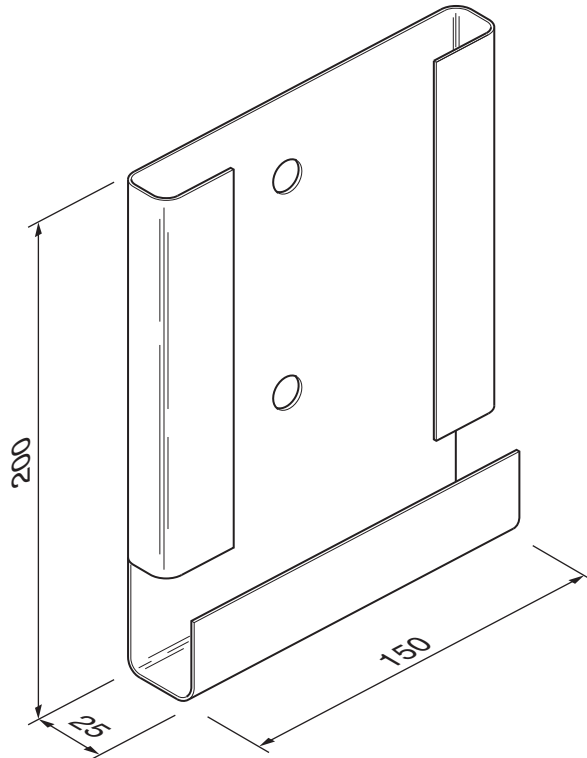

Fig. 1
- 1 Fig. 1 shows a leaflet holder made from 3 mm thick acrylic plastic.